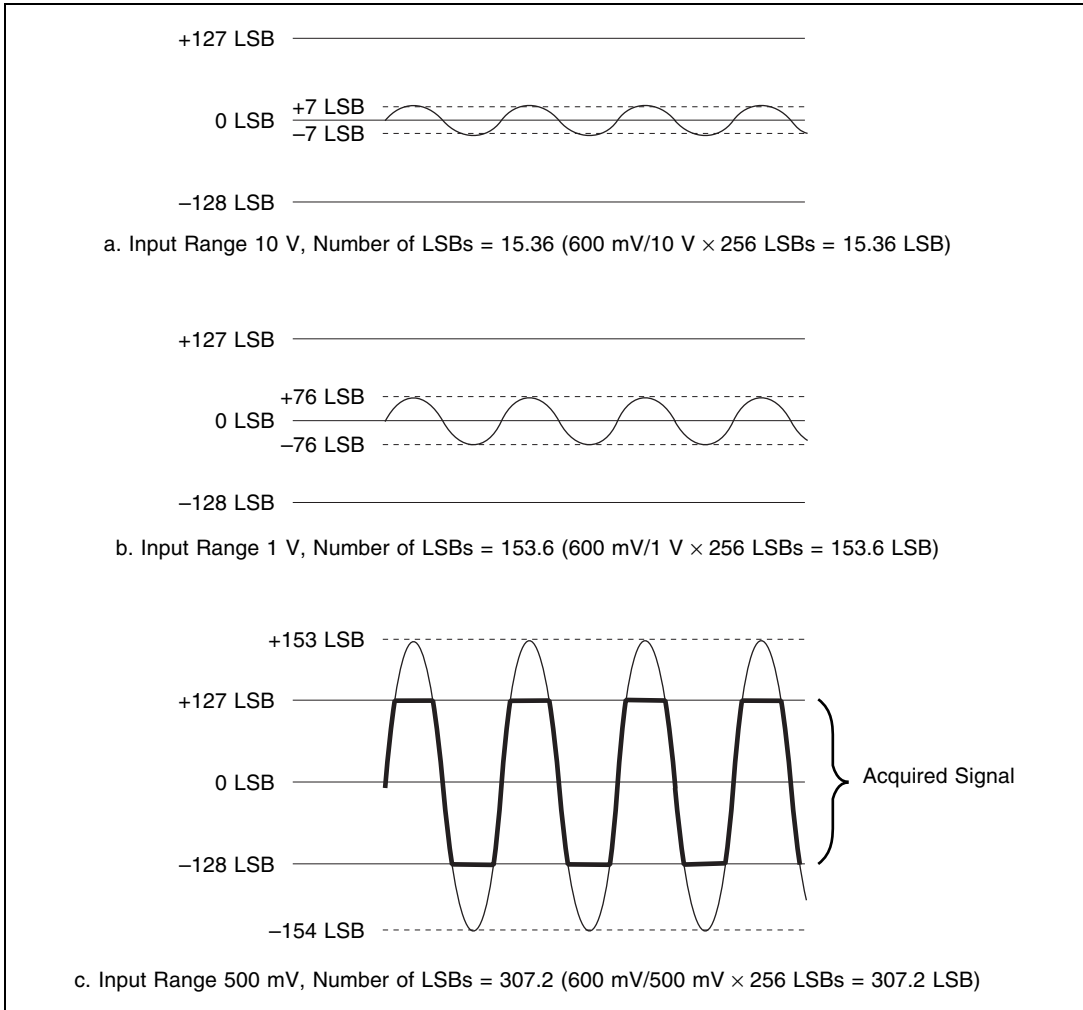

Figure B-7. Dynamic Range of an 8-Bit ADC with Three Different Gain Settings and a 600 mV Peak-to-Peak Input Signal
- **Peak-to-peak value**—This parameter, in units of volts, reflects the maximum change in signal voltage. If V is the signal voltage at any given time, then $V_{\text{pk-to-pk}} = V_{\text{max}} - V_{\text{min}}$. The peak-to-peak value affects the vertical sensitivity or gain of the input amplifier. If you do not know the peak-to-peak value, start with the largest input range, and decrease it until the waveform is digitized using the maximum dynamic range without clipping the signal. Refer to Appendix A, Specifications, for the maximum input range for your NI 5112. Figure B-7 shows how different ranges affect the resolution of the signal you acquire.